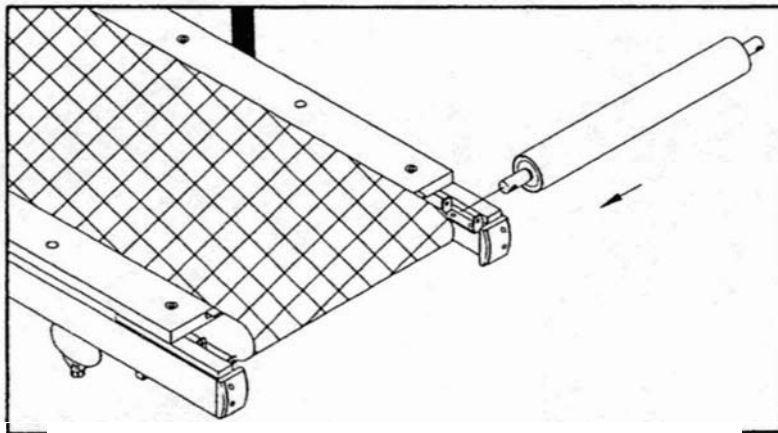

Fig.5
1. Place a new rear roller into its bracket. (see Fig.5)